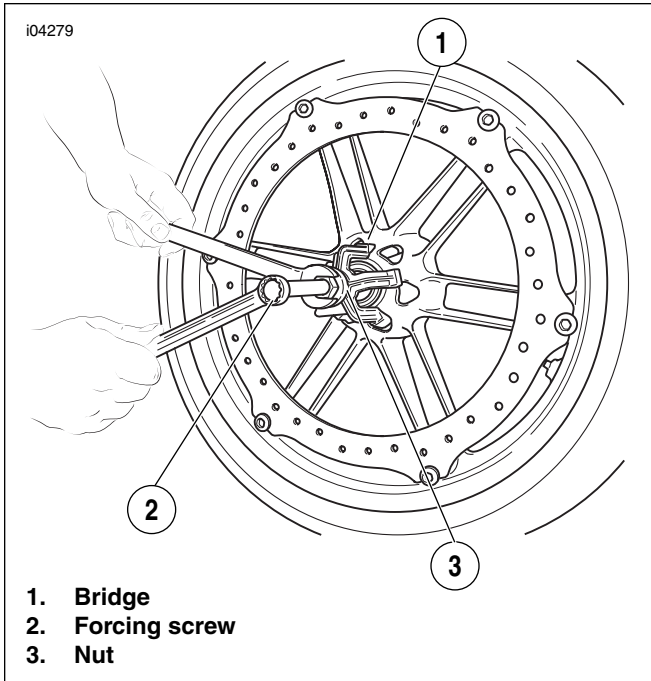

Figure 2-10. Remove the Bearing
8. See Figure 2-10. Place the bridge (1) against the wheel hub.
9. Hold the forcing screw (2), and turn the nut (3) clockwise until the bearing is free of the hub.